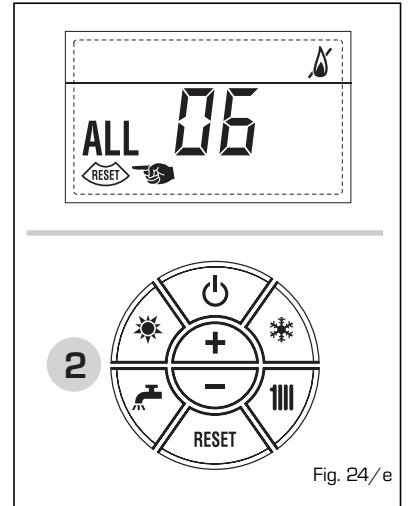

Fig. 24/e
**- SAFETY THERMOSTAT ANOMALY ALARM 07** (fig. 24/f)